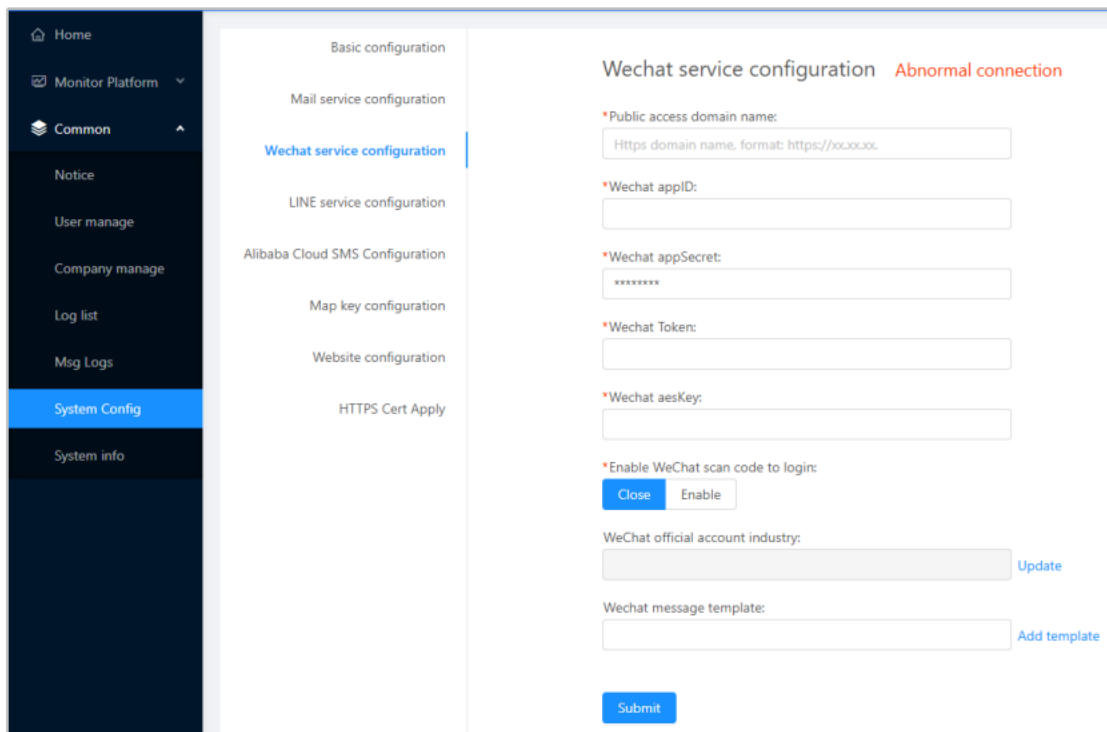

Figure 3-60
(3) Wechat Service Configuration: Navigate to the "System Config" page and click "Wechat service configuration" to set up the WeChat service, as shown in Figure 3-60.